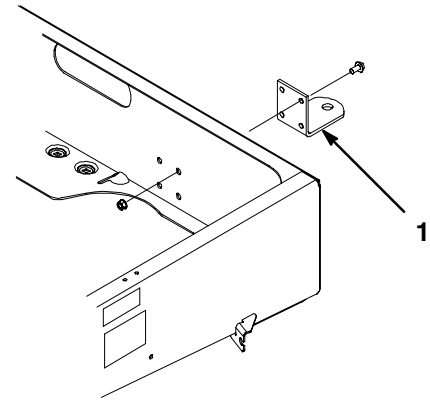

Figure 6
1. Remove the (4) screws and nuts from the inside rear of the frame.
2. Align the hitch with the mounting holes on the frame. Secure the hitch with the screws and nuts (Fig. 6).